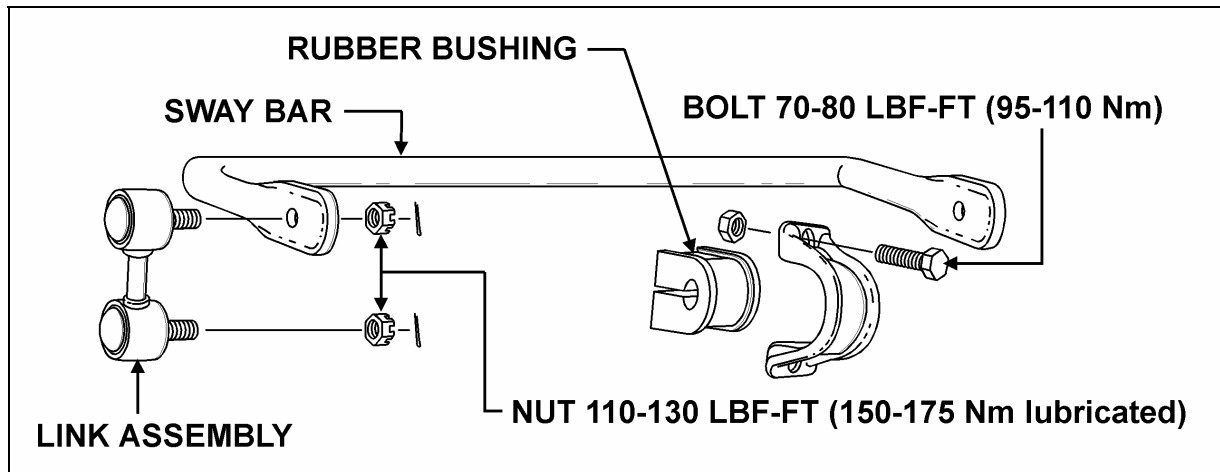

FIGURE 10: RIGID FRONT AXLE SWAY BAR
A sway bar is provided on the front axle to increase vehicle stability. It controls lateral motion (swaying movement) of the vehicle (Fig. 10). Vehicles equipped with an independent front suspension (IFS) are provided with two sway bars. Refer to supplement information on independent front suspension for more details.
2. Tighten the eight bushing collar nuts to 70 - 80 ft•lbf (95 - 110 N•m) (Fig. 10).
3. Install two sway bar link upper and lower nuts and tighten to 100 - 130 ft•lbf (150 - 175 N•m) (Fig. 10).